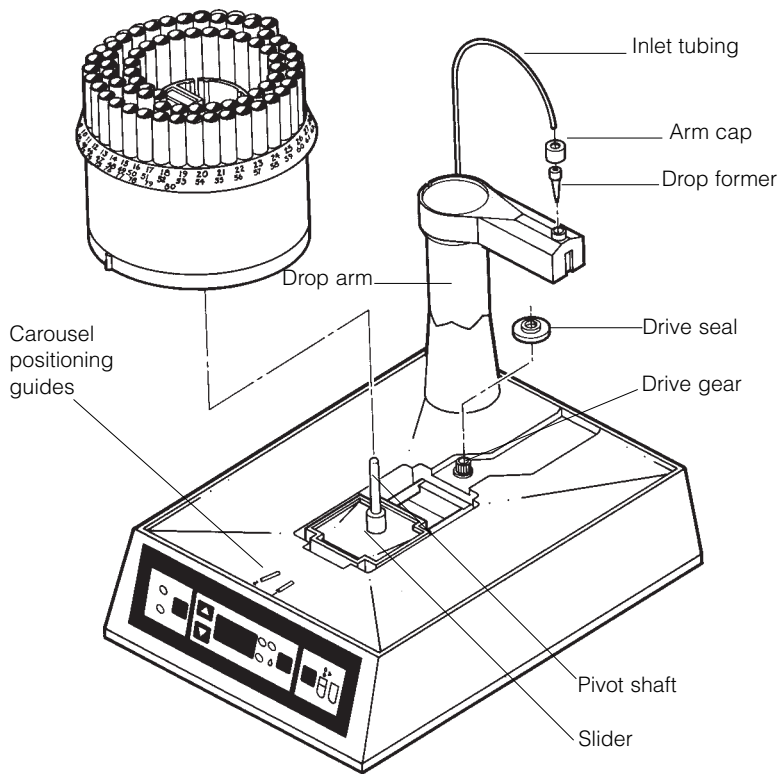

Fig 4.1. Model 2110 Fraction Collector features.
1. Insert the drop former, narrow end downward, into the drop arm, pressing it firmly in the hole (see Figure 4.1).